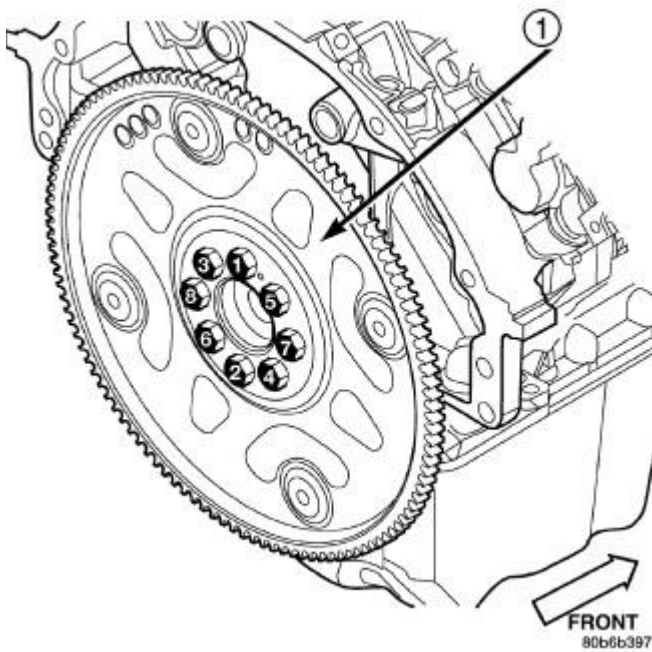

Fig. 156: Flexplate Tightening Sequence
2. Tighten the flexplate retaining bolts to 60 N.m (45 ft. lbs.) in the sequence shown in illustration. See **Fig. 156**.